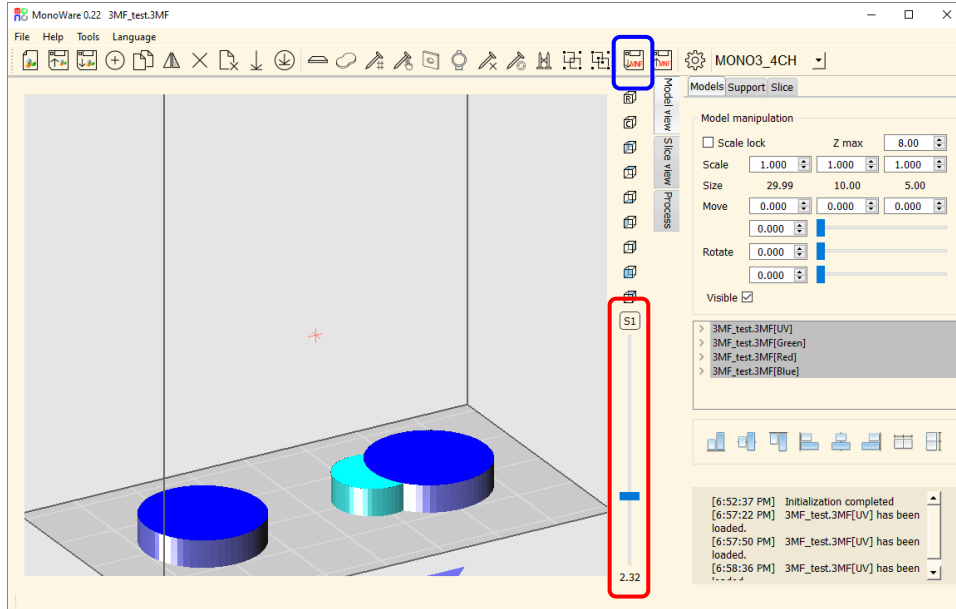

Fig. 6. Slice preview of multi-color model
- Press the “Export MNF” button to start slicing (blue box in Fig. 6)